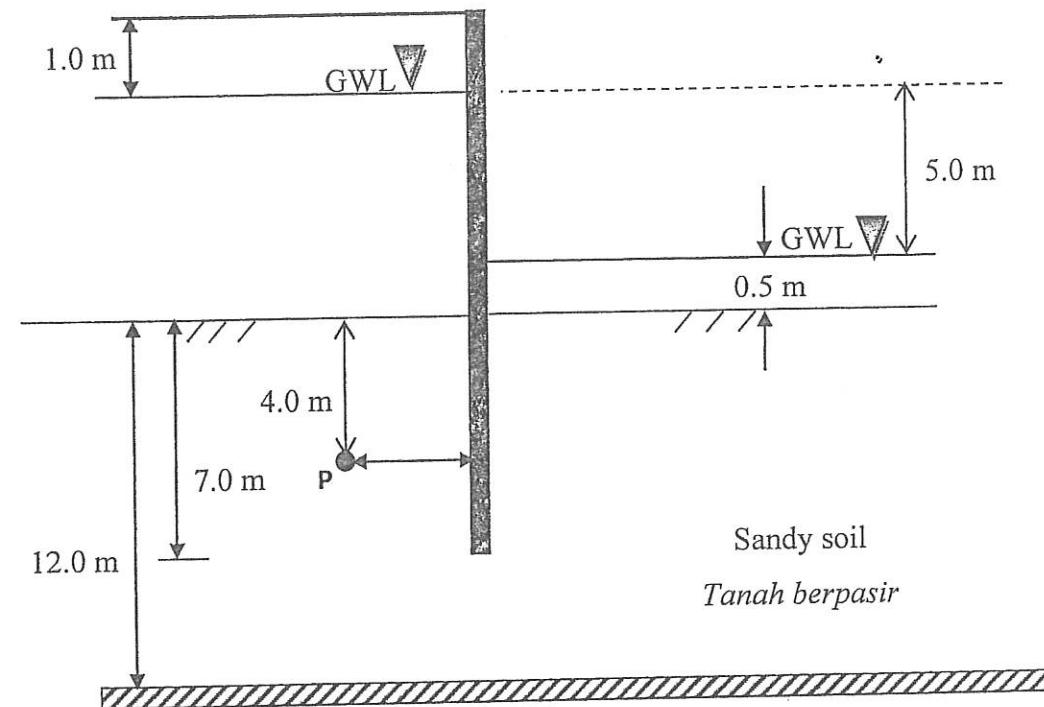

Figure 4b / Rajah 4b
- (b) Figure 4b below shows one dig of sheet piling on sandy soil. If the coefficient of permeability (k) is 7.2×10^{-3} mm/sec.